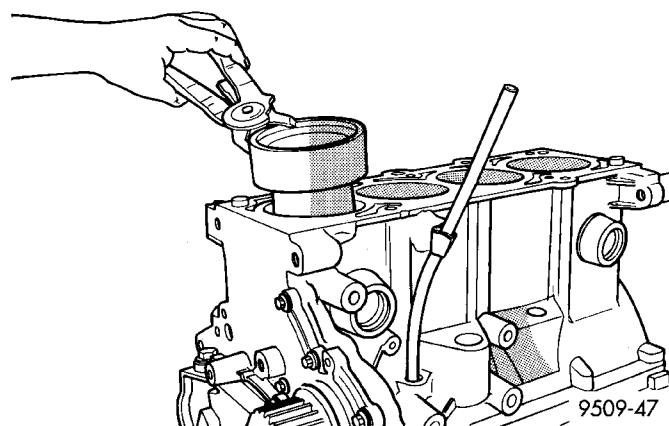

Fig. 84 Installing Piston
(3) Immerse the piston head and rings in clean engine oil, slide the ring compressor, over the piston (Fig. 84). **Be sure position of rings does not change during this operation.**